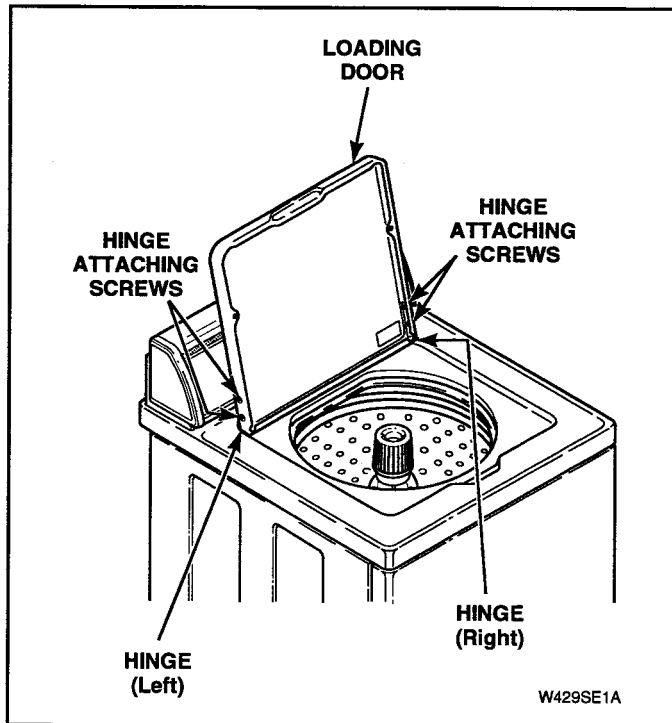

Figure 5-9
- Open loading door. See Figure 5-9.
- Remove two screws holding left hinge to door and remove hinge. See Figure 5-9.